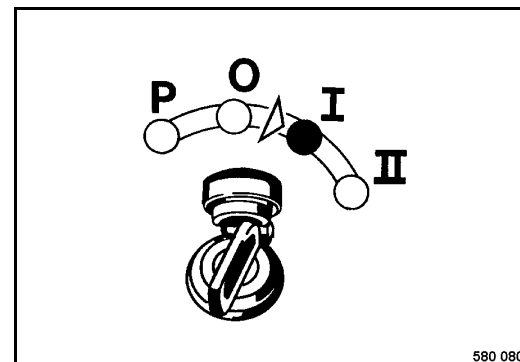

Fig. 90
- Turn the ignition key (Fig. 90) to position "I".